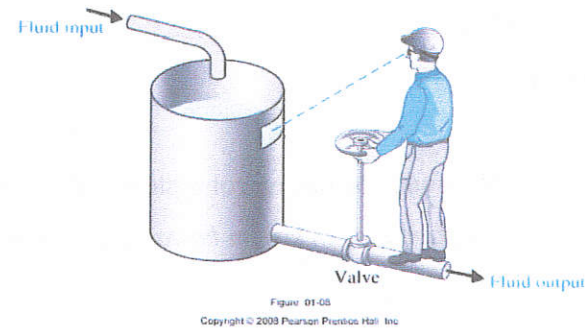

Figure 4.0/ Rajah 4.0
- (e) Draw the block diagram for the control system in Figure 4.0